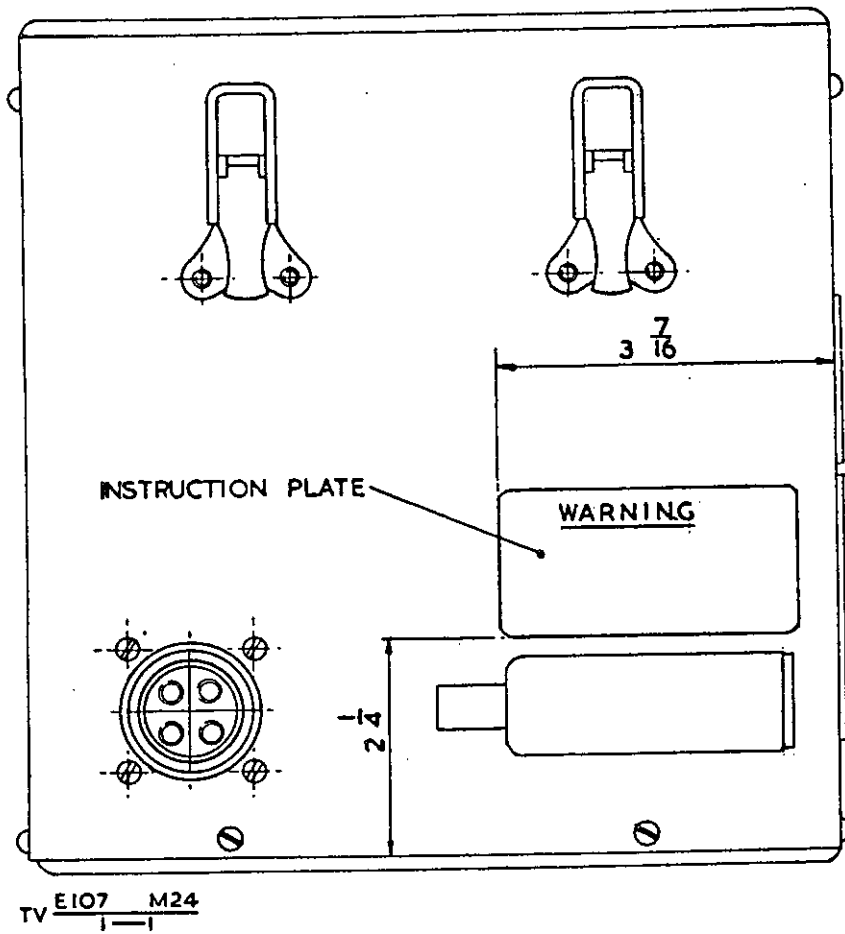

Fig 1 - Cooking vessel - assembly
a. See Fig 1
- (1) Clean the area of cooking vessel casing, where instruction plate is to be fitted. FV 432 has two cooking vessels.
- (2) Remove the backing paper from the instruction plate (9905-99-806-1464) provided, and affix to cooking vessel casing at dimensions shown.
- (3) Erase Mod No 1 from cooker modification record plate.